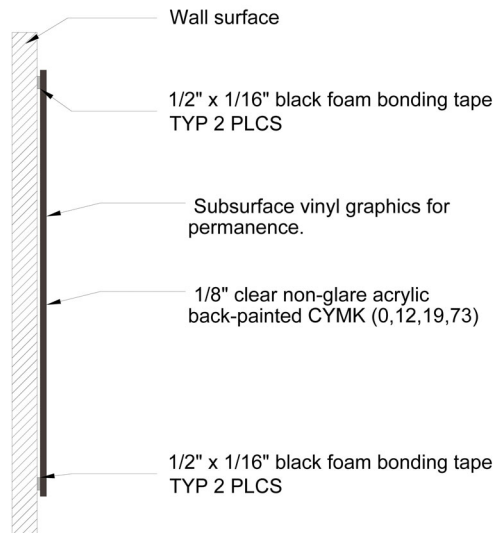

Figure 23.12
23.12. UMD F1 sign cross section shall comply with figure 23.12.
28.8. UMD H6 sign cross section shall comply with figure 23.12.